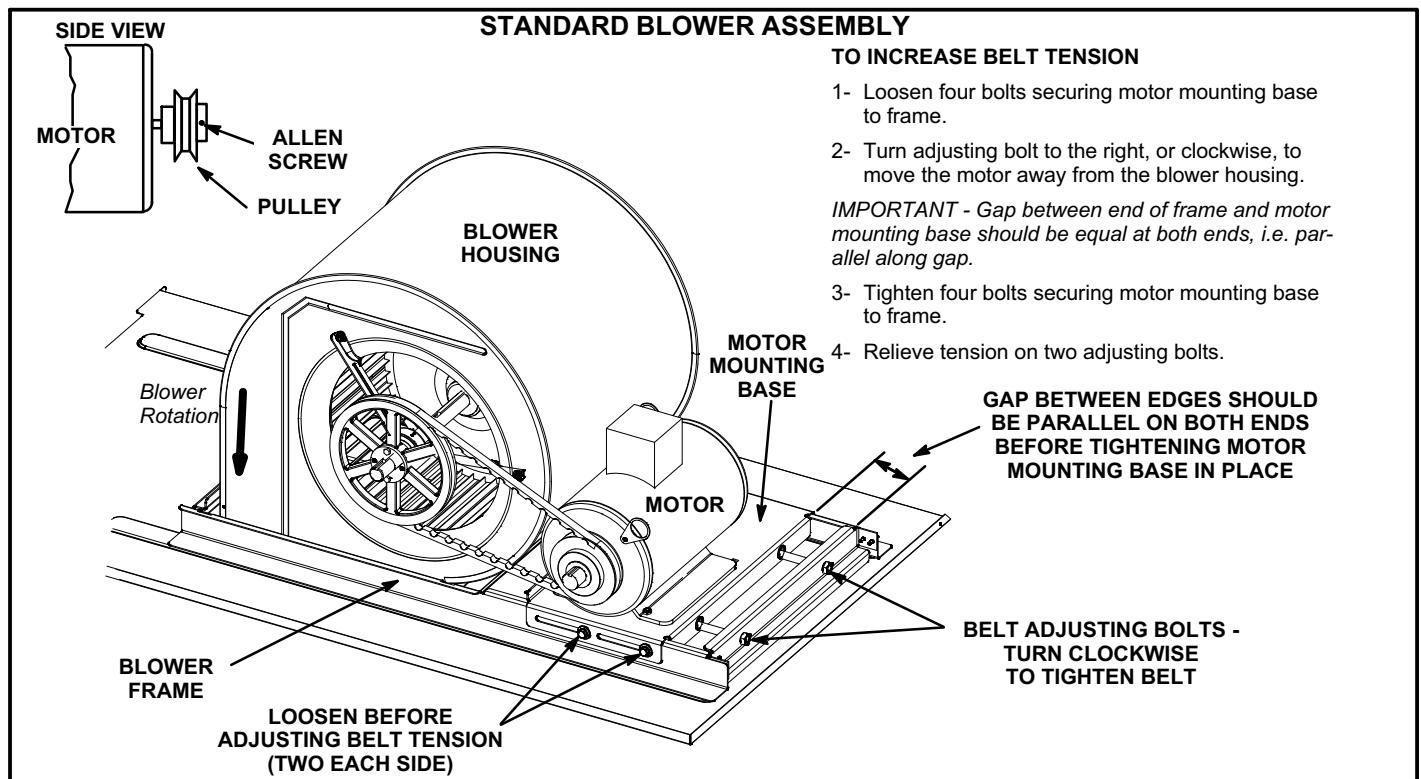

FIGURE 5
The blower assembly is secured to a sliding frame which allows the blower motor to be pulled out of the unit. See figure 5.
- 5- The blower RPM can be adjusted at the motor pulley. Loosen Allen screw and turn adjustable pulley clockwise to increase CFM. Turn counterclockwise to decrease CFM. See figure 5. Do not exceed minimum and maximum number of pulley turns as shown in table 1.
- 1- Loosen four bolts securing motor base to mounting frame. See figure 5.